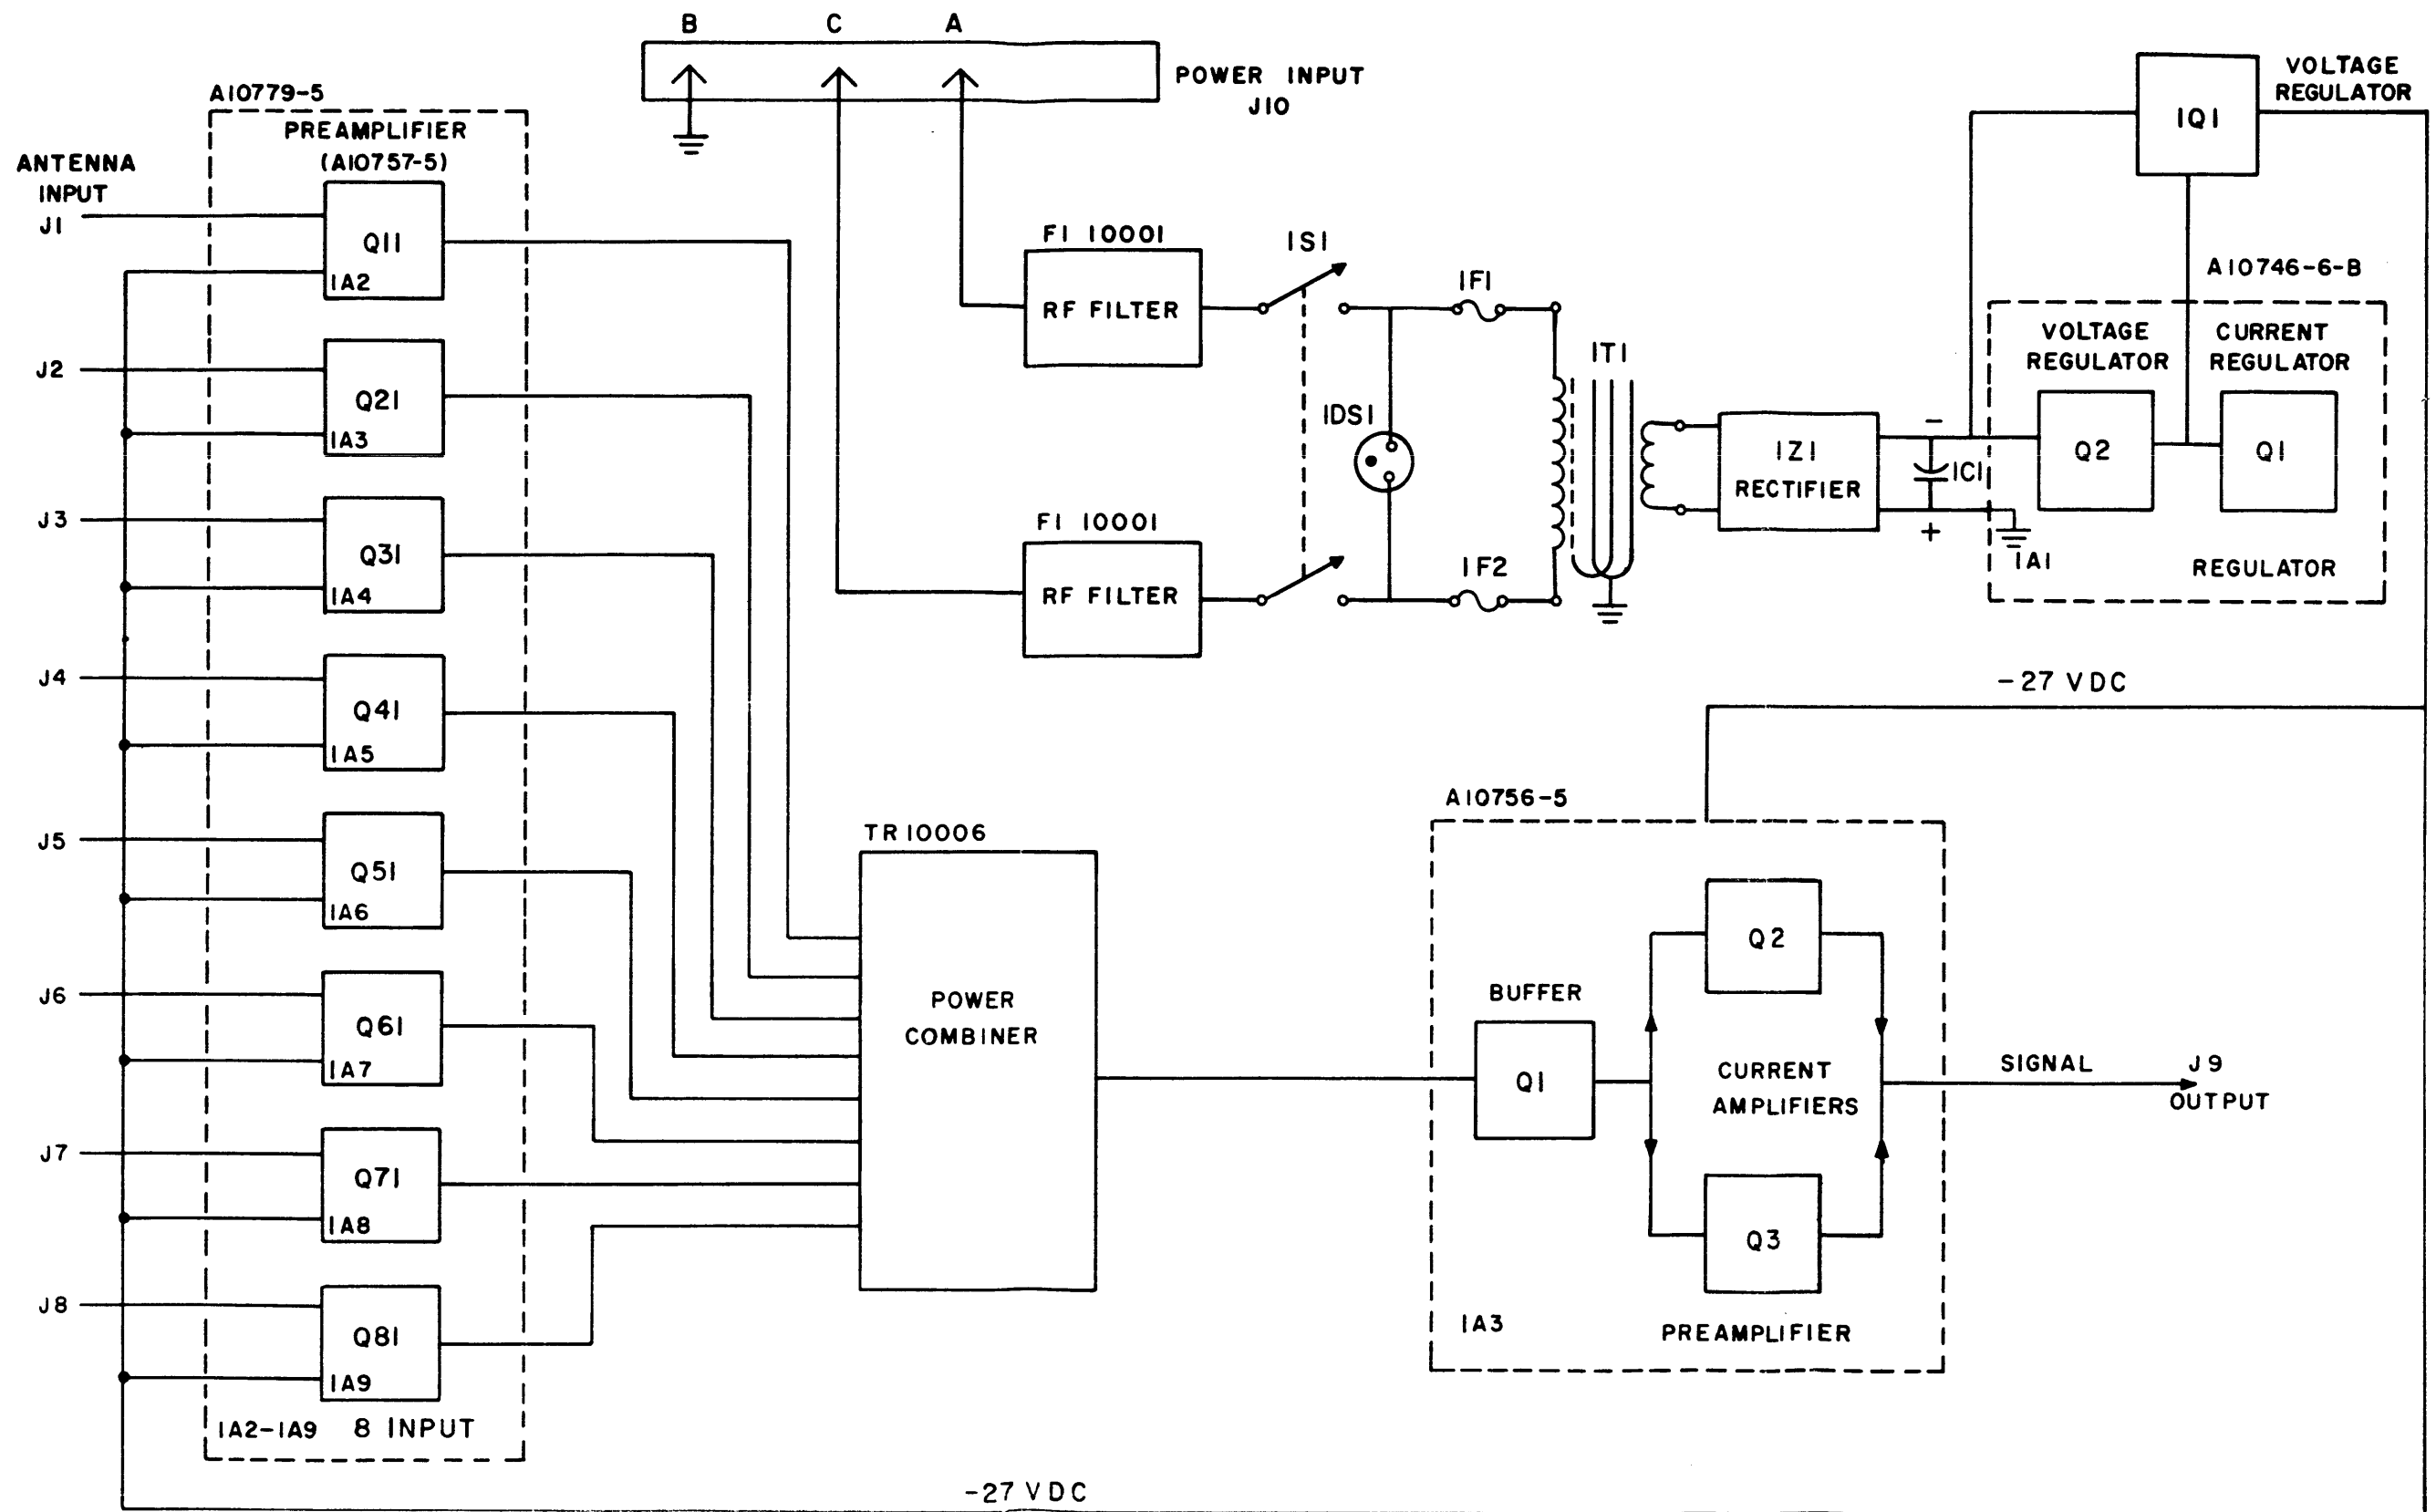

Figure 4-1 System Block Diagram, MAC-1
(1) The Eight Input Multiantenna Coupler is a broadband antenna combining system, designed to couple from one to eight antennas to a single high-frequency communications receiver. The multi-coupler thereby permits the use of a receiver with a number of antennas for such purposes as space diversity, frequency diversity, polarization diversity of one of the several forms of steerable antennas.
(2) Both the input and output impedance of the MAC-1 coupler are nominally 75 ohms, with a voltage standing-wave ratio characteristic better than 1.5 to 1 over the frequency range of 2MHz to 32 MHz.
(3) The MAC-1 coupler provides a nominal insertion gain of 2 decibels from each antenna input to the connected receiver. The coupler is designed to ensure a minimum of noise generation, and to provide a high degree of intermodulation rejection and isolation between input antennas. The rejection and isolation figures are stated in Paragraph 1-4 for this equipment.
(4) The MAC-1 multicoupler consists of four major sections, as shown in Figure 4-1, System Block Diagram, MAC-1, and as described in the following paragraphs. These sections consist of the eight preamplifier printed wiring board assemblies, (1A2 to 1A9), the output buffer amplifier assembly (1A10), the power combiner (1T2) and the regulated power supply.